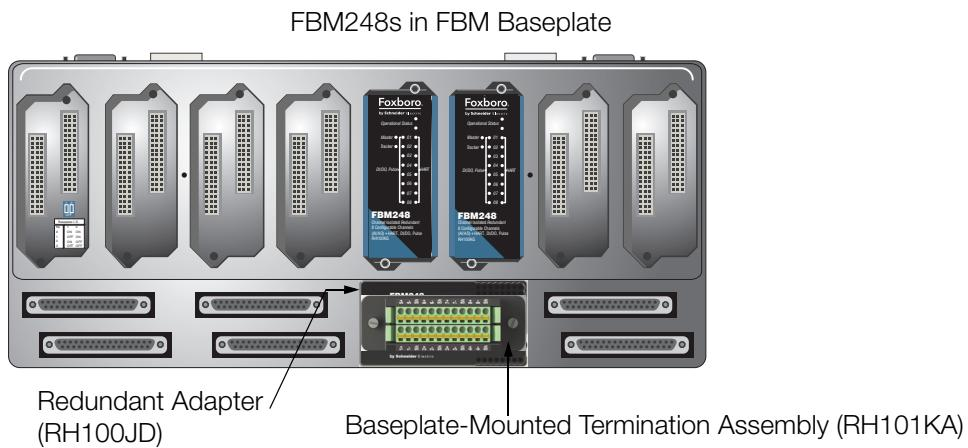

Figure 3. Baseplate-Mounted Termination Assembly (RH101KA) for FBM248 Pair (RH101KA)
- ▶ Baseplate-mounted TA (RH101KA), which provides field I/O wiring support for redundant FBM248s in paired slots (that is, in positions 1 and 2, 3 and 4, 5 and 6, or 7 and 8), as shown in Figure 3. This TA mounts directly onto the redundant adapter (RH100JD) which must be installed directly onto the field I/O connectors on the 200 Series baseplate.